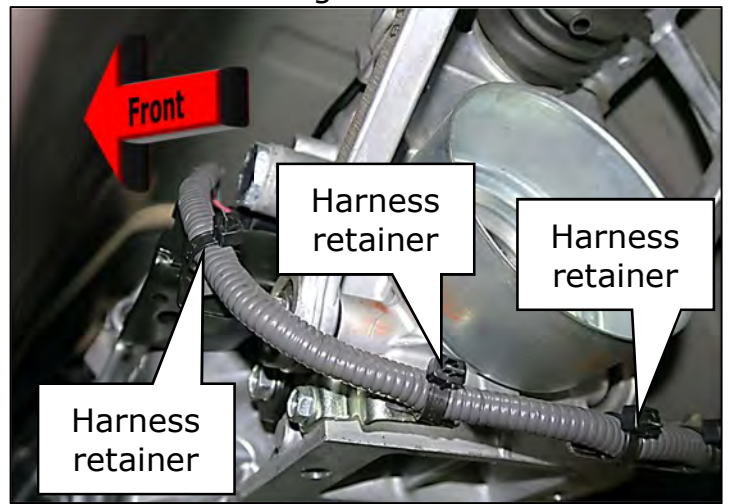

Figure 82
- Insert the harness retainers into the wiring harness retainer brackets shown in Figure 82